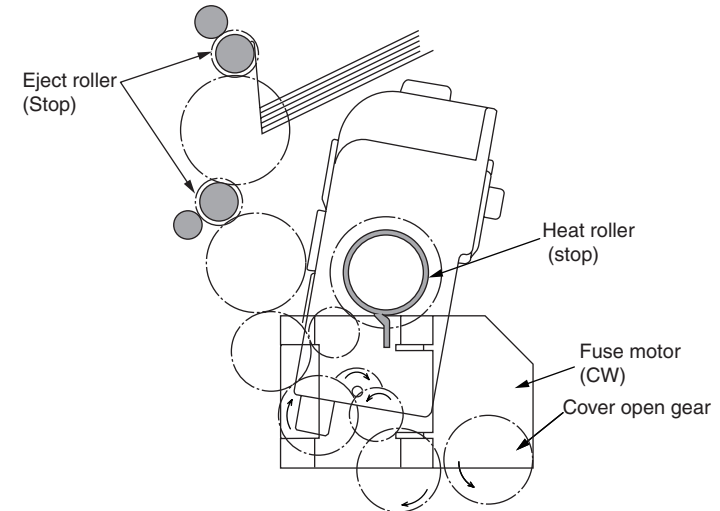

Figure 2-9
1. As shown in Fig. 2-9, when the fuse motor is rotated (clockwise), the cover open gear is operated and the cover of color blur sensor and density sensor is open.